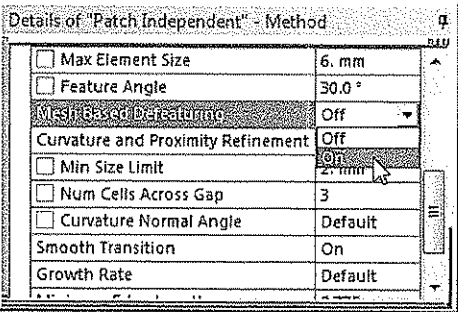

Figure 8-33 Selecting the **On** option from the **Mesh Based Defeaturing** drop-down list
- 37. Select the **On** option from the **Mesh Based Defeaturing** drop-down list under the **Advanced** node, refer to Figure 8-33; the **Defeaturing Tolerance** edit box is displayed.